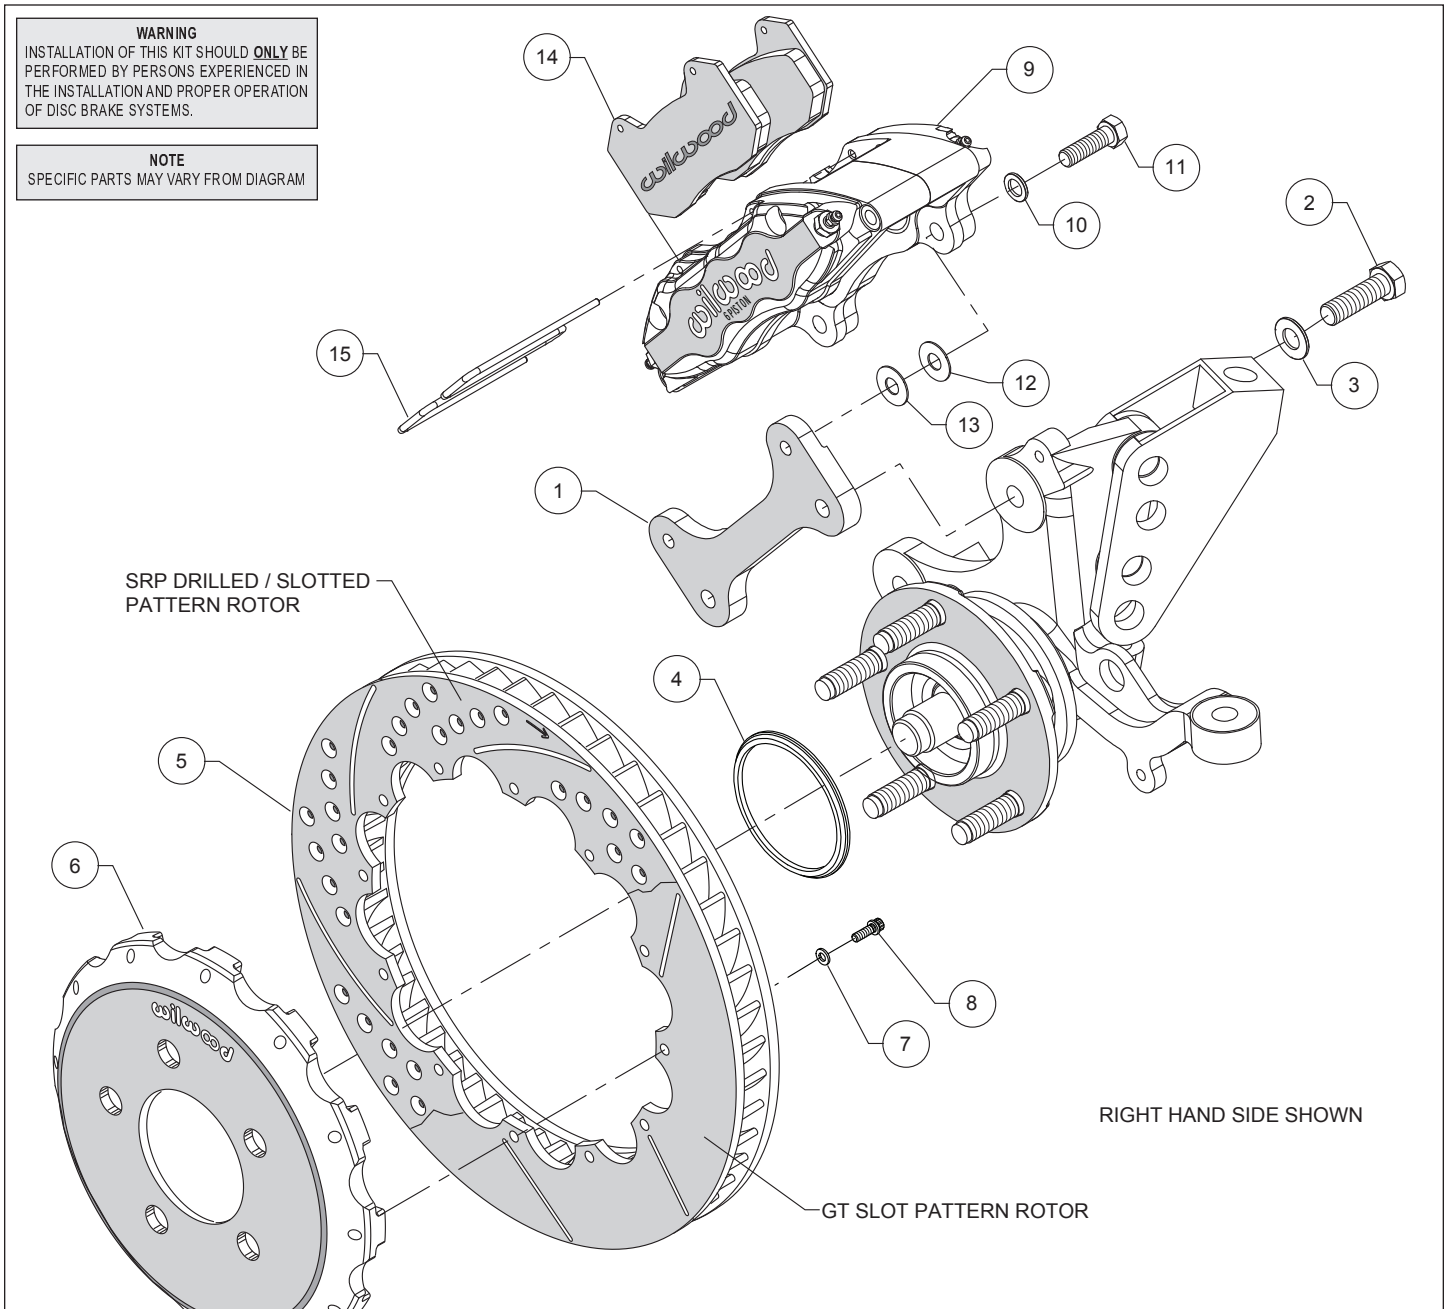
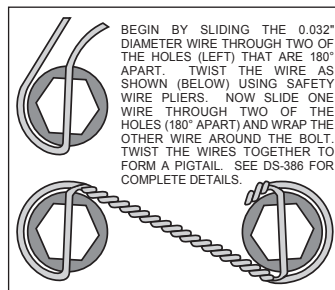

Figure 1. Typical Installation Configuration
Figure 3. Safety Wire Diagram
Assembly Instructions (numbers in parenthesis refer to the parts list and Figure 1 on the preceding pages):
- Orient the caliper mount bracket (1) as shown in Figure 1 and Photo 1, and install using bolts (2) and washers (3). Temporarily tighten the mounting bolts. **NOTE:** *The bracket must fit squarely against the mount bosses on the upright.* Inspect for interference from casting irregularities, machining ridges, burrs, etc. Remove bolts one at a time, apply red *Loctite*® 271 to the threads and torque to 60 ft-lb.
- Orient the rotor (5) and the hat (6) as shown in Figure 1 and Photo 2. Attach rotor to hat using bolts (8) and washers (7). Using an alternating sequence, apply red *Loctite*® 271 to the threads, and torque to 155 **in-lbs**. Safety wire bolts using standard 0.032 inch diameter stainless steel safety wire as shown in Figure 3. Please refer to Wilwood's data sheet DS-386 (available at www.wilwood.com/Pdf/DataSheets/ds386.pdf) for complete safety wire installation instructions.
- **NOTE:** *This kit contains distinct right and left hand calipers that must be mounted in a specific direction, as described below.* Mount the caliper (9) onto the caliper mounting bracket (1) using bolts (11) and washers (10), as shown in Figure 1. Initially place one each .016" thick shim (12) and .035" thick shim (13) on each bolt between the caliper and the bracket, Figure 1 and Photo 5. Ensure that the caliper is mounted so the largest pistons are at the rotor exit end of the caliper, in relation to the direction of rotor rotation. Temporarily tighten the mounting bolts and view the rotor (5) through the top opening of the caliper. The rotor should be centered in the caliper, Photo 6. If not, adjust by adding or subtracting shims (12 and/or 13) between the bracket and the caliper. Always use the same amount of shims on each of the two mounting bolts. Once the caliper alignment is correct, remove the bolts one at a time, apply red *Loctite*® 271 to bolt threads, and torque to 35 ft-lb.